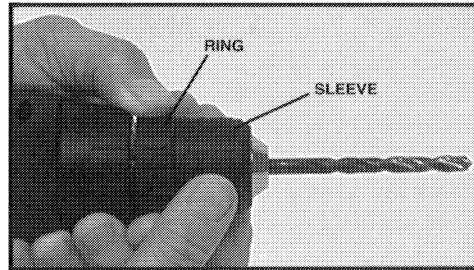

Fig. 4
5. Tighten chuck by holding chuck ring (see Fig. 4) with one hand while turning outer sleeve clockwise with other hand. Tighten securely.